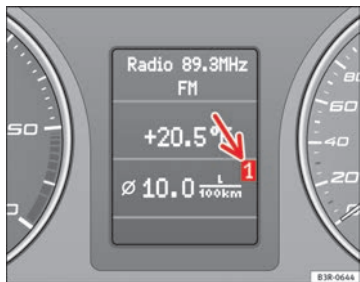

Fig. 60 Onboard computer: memory 1
The numbers in the display ⇒ Fig. 60 indicate which of the two memories is currently in use. A **1** means that the display is showing the information in the single journey memory (onboard computer 1). A **2** means that the display is showing the information in the total journey memory (onboard computer 2).
- Press the reset button **B** repeatedly until the onboard computer (memory 1 or 2) → Fig. 60 is displayed.